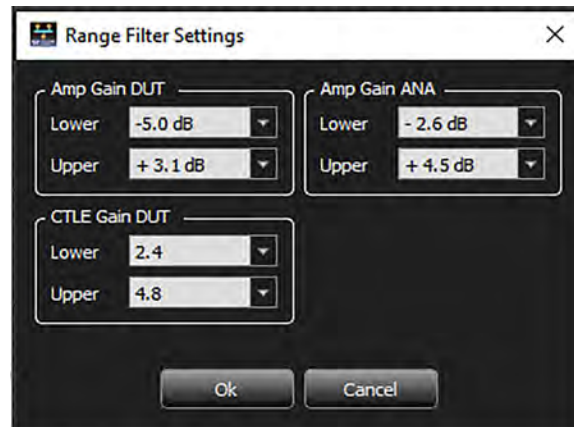

Figure 4.17: Range Filter Settings
2. To edit the range filter values, click the  icon to the right of Enable Range Filter. The Range Filter Settings dialog displays, as shown in Figure 4.17.